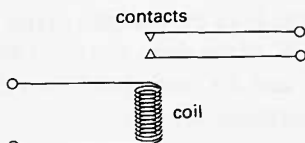

Figure B90
- 44(E)** A relay is a magnetic switch. Two contacts are closed when the coil creates a sufficiently strong magnetic field (figure B90). The smallest current through the coil which will close the contacts is 0.1 mA. The contacts can be used to switch a current of up to 4 A.